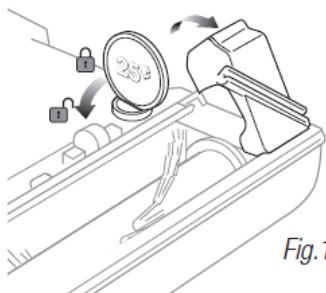

Fig. 10
4. Use a coin to remove the trap door if you need to remove the brush roll to either clean it or replace it. (Fig. 10)